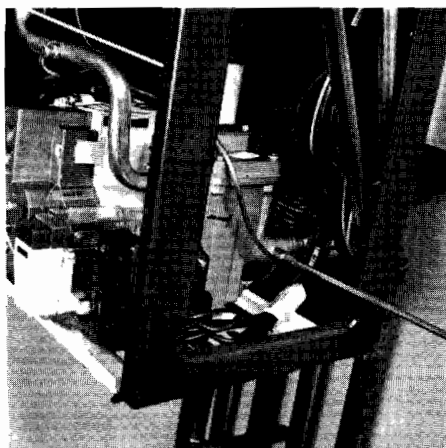

Fig. 41
8.1.2 It is recommended that the air be purged from the gas supply pipe at the pressure test point on the inlet to the gas valve (refer to Fig. 41).
Remove screw from test point on inlet to gas valve at rear of boiler (refer to Fig. 41).